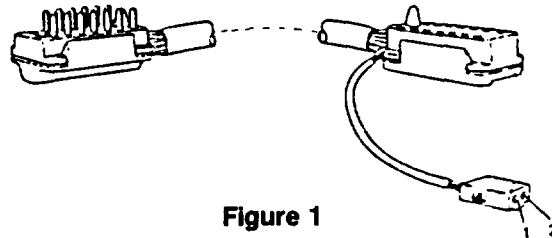

Figure 1
3. Connect adaptor cable (Special Tool 9269) (Fig. 1) between disconnected wiring harness plugs on car and seat. Terminal 30 (battery plus) and Terminal 31 (ground) can be picked off the 2 pole plug for some test steps. Use a voltmeter to identify + and - terminals.